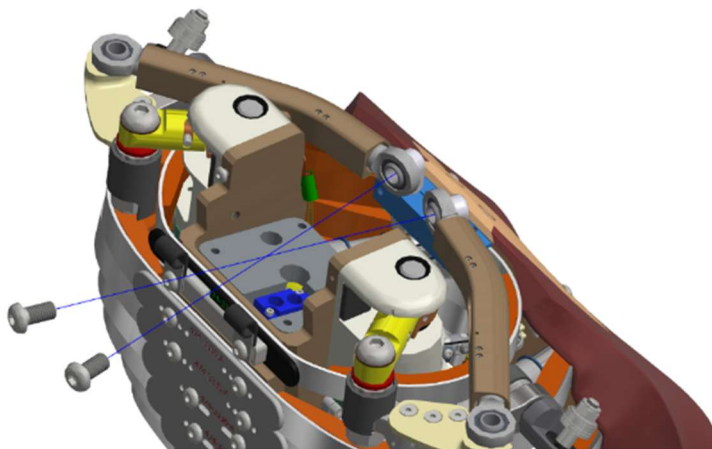

Figure 5-12. Remove the Clavicle Assemblies (474-3508) from the Clavicle-Sternum Adaptor (474-3041-A)
- 5.2.6 Remove the Clavicle Assemblies (474-3508) from the Clavicle-Sternum Adaptor (474-3041-A) by removing two M8 X 1.25 X 16 LG. BHCS (Figure 5-12).